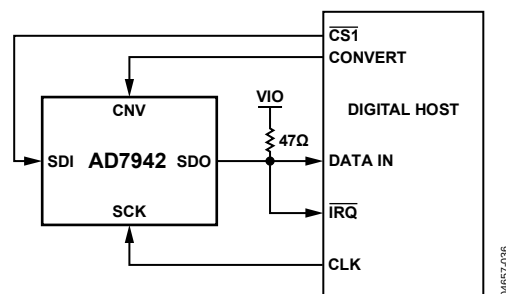
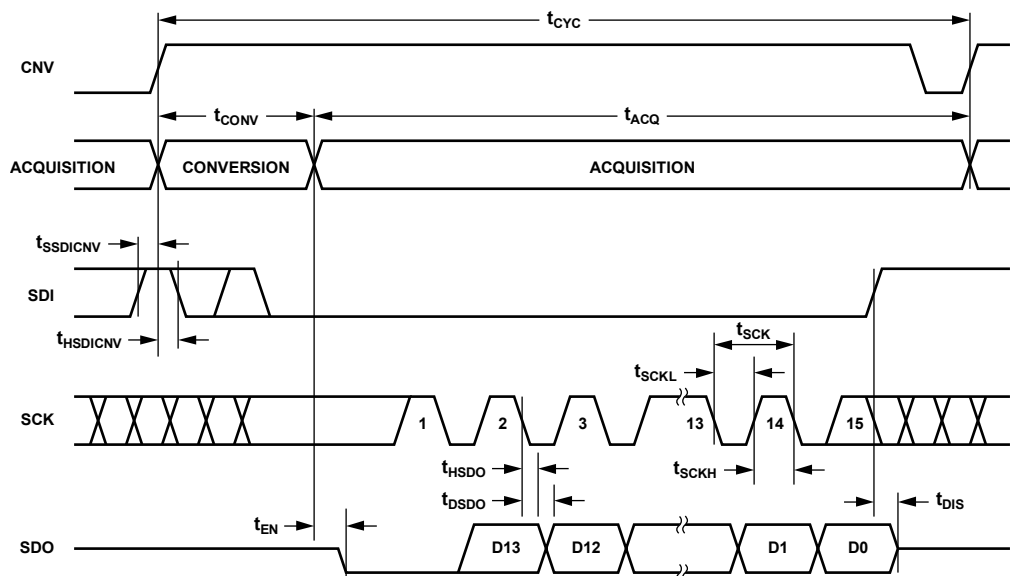

Figure 36. $\overline{CS}$ Mode 4-Wire with Busy Indicator Connection Diagram
Figure 37. $\overline{CS}$ Mode 4-Wire with Busy Indicator, Serial Interface Timing
- In the $\overline{\text{CS}}$ mode, if CNV or SDI is low when the ADC conversion ends (see Figure 33 and Figure 37).
This mode is most often used when a single AD7942 is connected to an SPI-compatible digital host with an interrupt input and to keep CNV (which is used to sample the analog input) independent of the signal used to select the data reading. This requirement is particularly important in applications where low jitter on CNV is desired. The connection diagram is shown in Figure 36 and the corresponding timing diagram is given in Figure 37.